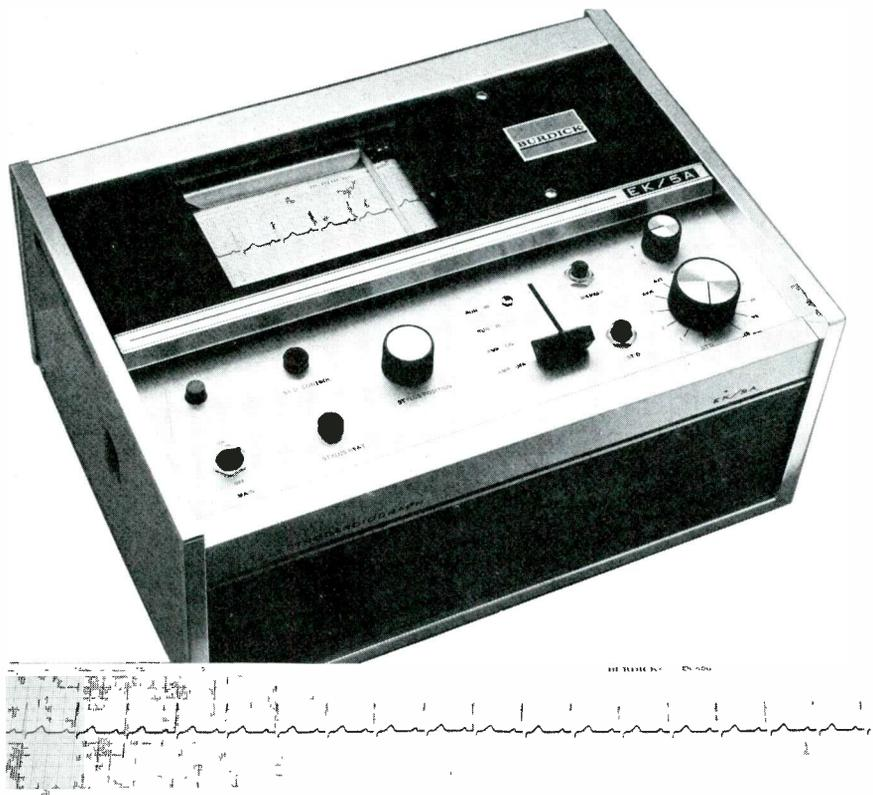

Figure 1 Electrocardiographs produce a scope-type waveform on moving paper tape for diagnostic tests of human hearts. Courtesy of Burdick.
Figure 1 (A) All components are visible in this photograph of the constant-current voltage-drop diode test adapter. A large wire-wound resistor was used for stability, not because high wattage is required. (B) The schematic is equally simple. Convenience features could be added. An on-off switch and an LED power indicator would remind technicians to shut off the power. A spring-return polarity-reversing switch would save time if many diode junctions are to be tested quickly.
An electrocardiograph (ECG) provides amplitude-versus-time continuous recordings of waveforms produced by human hearts. Interpretations of these waveforms can reveal the medical condition of a heart. Electrocardiograph waveforms are recorded in permanent form on strips of special paper (Figure 1). When similar heart waveforms are displayed on a CRT screen for temporary viewing, the instrument is called an electrocardioscope (ECS).